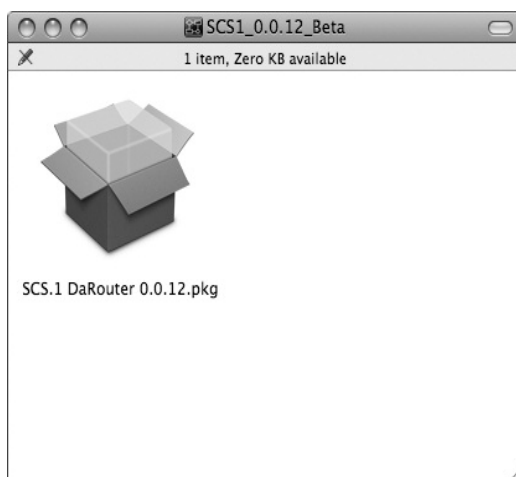

Figure 4.18
2. Double click the *DaRouter.pkg* file to start the installer. (Figure 4.18)